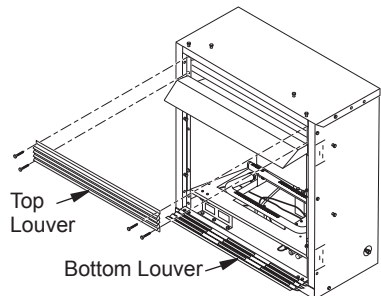

Figure 11 - Removing Top Louver and Opening Bottom Louver
1. Unscrew four screws that attach top louver to fireplace. Remove louver from fireplace and set aside (see Figure 11).
- Remove 4 screws from upper louver (see Figure 11, page 12). Save these screws.
- Open lower louver door by swinging door down (see Figure 11, page 12).
- Reinstall upper louver beginning with bottom screws (see Figure 11, page 12). Close lower louver door.
6. Reinstall upper louver beginning with bottom screws (see Figure 11, page 12) and close lower louver.